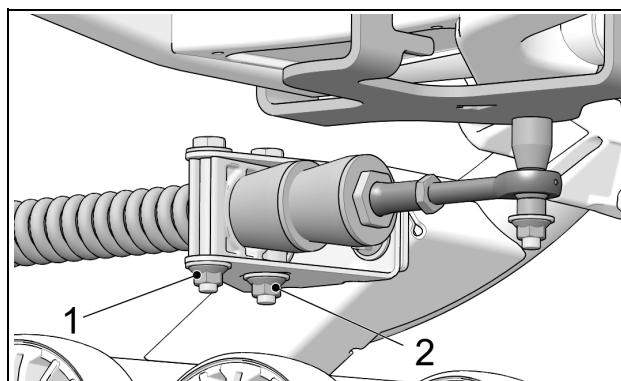

Figure 19
- Re-tighten anti-rotation bracket nuts (1) and (2) to 50 N·m [37 lb-ft] of torque. See Figure 19.